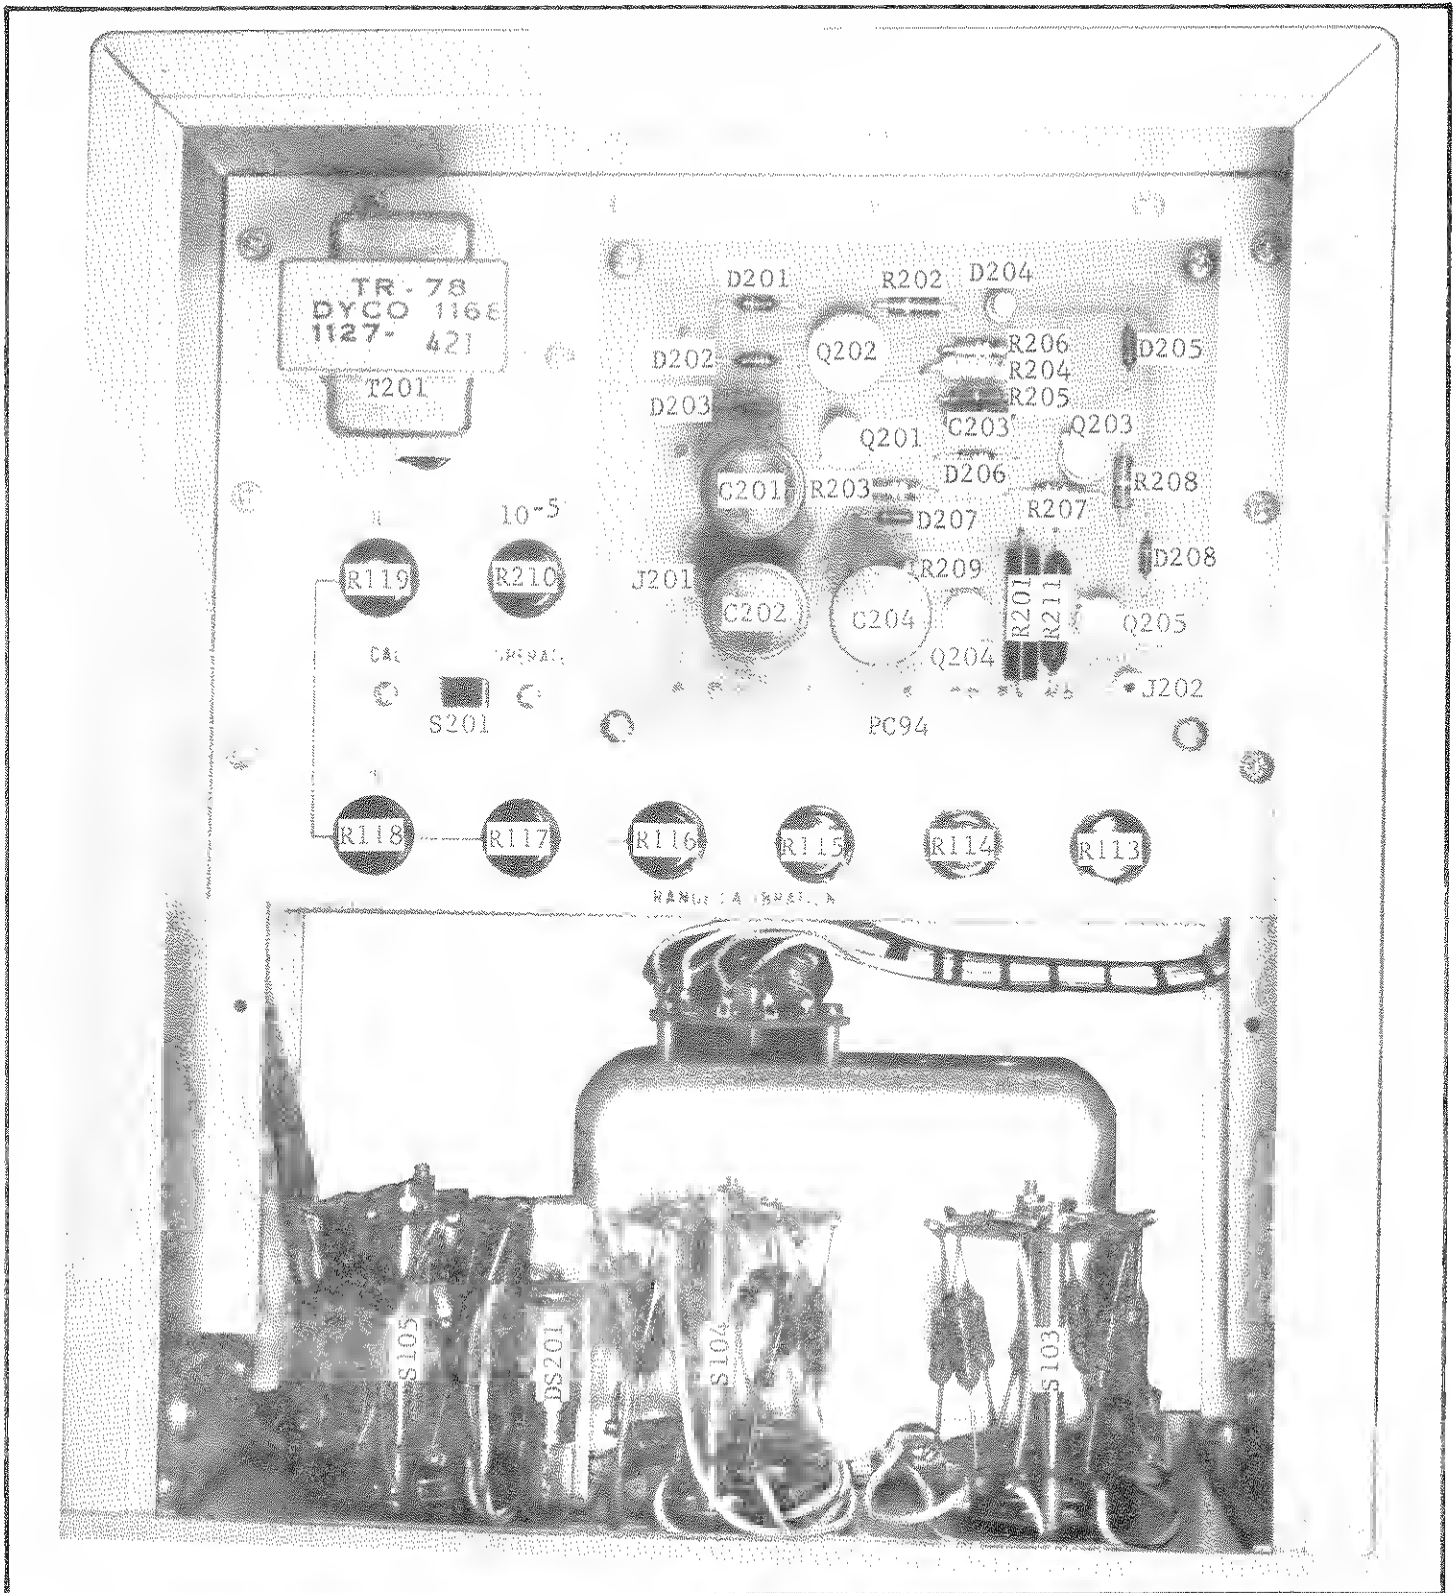

FIGURE 10. Chassis, Top View
1. Connect the Model 662 Differential Voltmeter across the Kelvin-Varley divider. Connect the positive lead to the grey-white wire on the X.01 Switch, S103, and the negative lead to the black-blue wire on the X1 Switch, S105 (Figure 10).
2. Set the CAL-OPERATE Switch S201 (Figure 10) to OPERATE. Set the Model 261 Range Switch to 10⁻⁵; set the POLARITY Switch to +. Set the Multiplier Switches to 10.00.
3. The Model 662 should read 10 volts ± 5 millivolts. If necessary, adjust potentiometer R210 (Figure 10) for this output.
1. Disconnect the Model 261 power cord from the power source; remove the link from the COM Binding Post on the rear panel. Set the CAL-OPERATE Switch (Figure 10) to CAL. The CAL-OPERATE Switch is a 2-position slide switch. In CAL position, the low side of the range resistor is connected to chassis ground, and the low side of the OUTPUT Receptacle (threaded shell) is connected as a guard between the high side of the output and ground.
1. Set the Model 261 CAL-OPERATE Switch to OPERATE. Connect the Picoampere Source to the proper line source. Connect the Model 662 Differential Voltmeter across the Kelvin-Varley divider. Connect the positive lead to the grey-white wire on the X.01 Switch, S103, and the negative lead to the black-blue wire on the X1 Switch, S105 (Figure 10).
3. Adjust the 10^{-5} CAL Potentiometer, R210 (Figure 10), for 10.012 volts ± 5 millivolts when read on the Model 662. Setting the voltage 12 millivolts high compensates for any loading errors on the 10^{-5} ampere range.